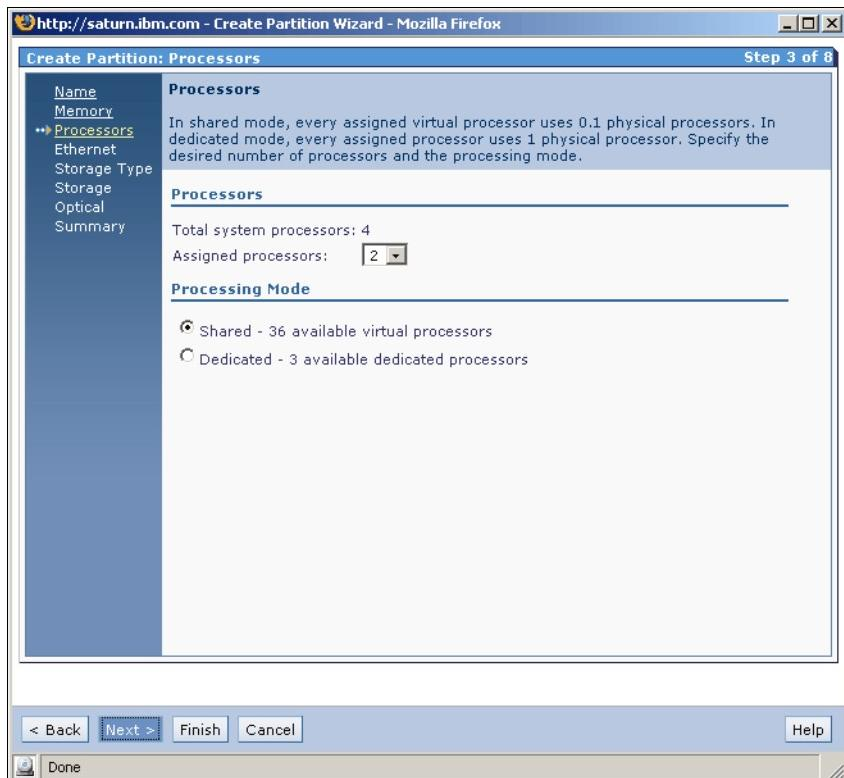

Figure 6-18 Create partition - CPU configuration
7. Choose the number of CPUs that will be used by the partition. You have to decide whether to use dedicated or shared CPUs. When a dedicated CPU is used, no load can be moved to other currently free CPUs because this may lead to a performance issue. In Figure 6-18 you see that we configured two CPUs and shared processor mode. Click **Next** to proceed.